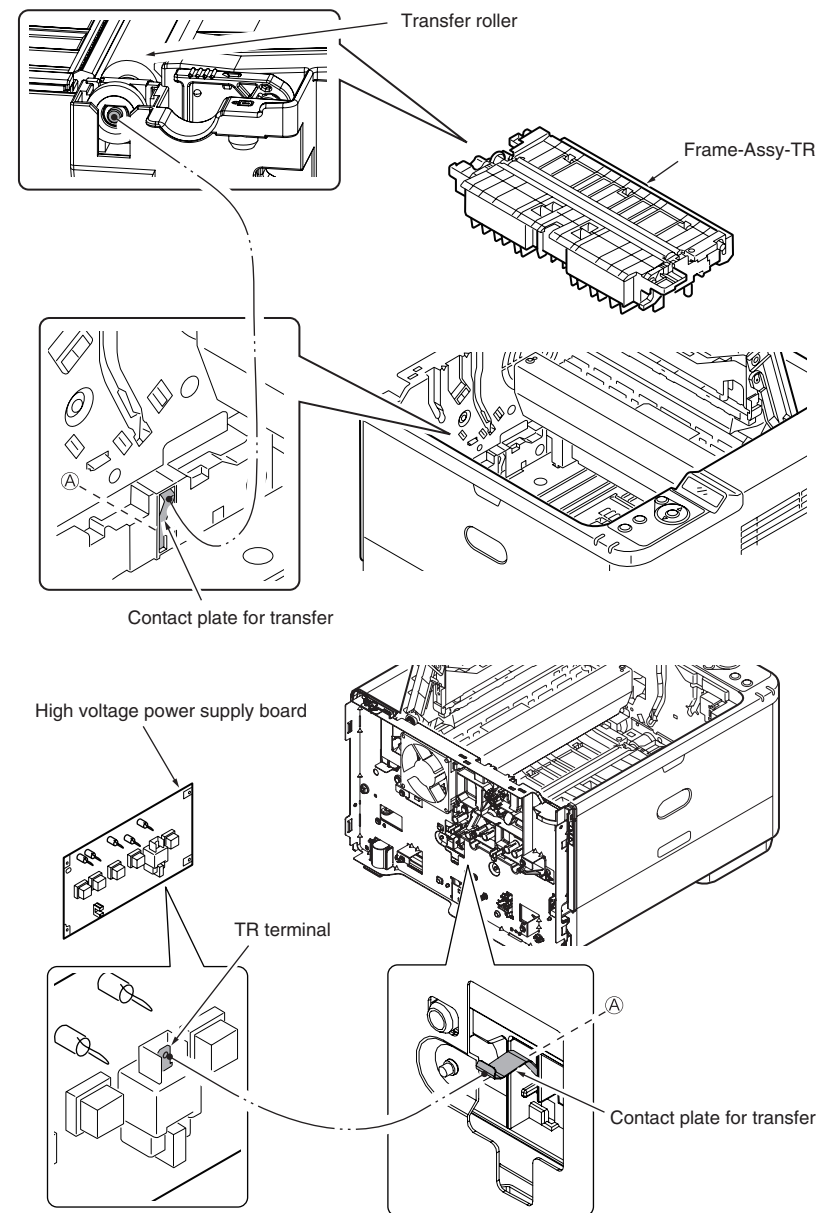

Figure 7-3
- Yes Does the contact plate of the transfer roller contact the TR terminal of the high-voltage power supply unit properly? (See Figure 7-3 , Section 9.2 (2))